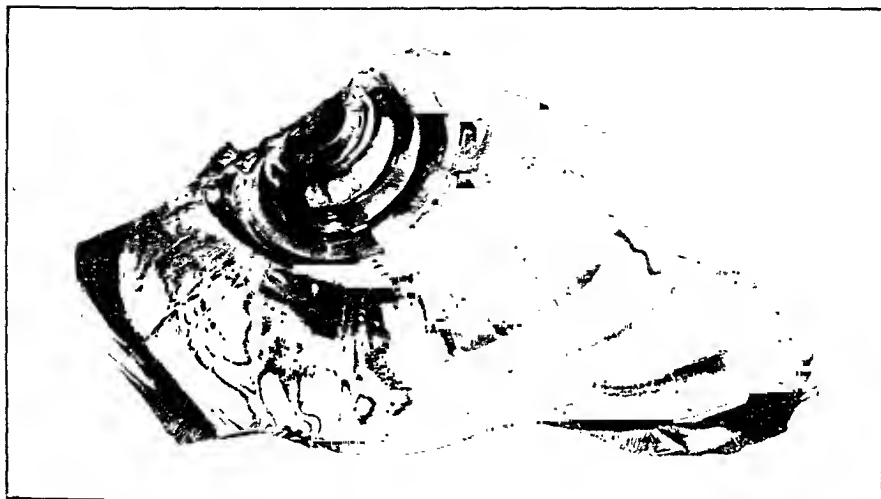

Figure 196. Uintahite (Gilsonite), Utah, Showing Its Conchoidal Fracture
**Wurtzilite** is a brilliant, black solid, which breaks with a conchoidal fracture. It much resembles *uintahite* (*gilsonite*) figure 196, which is